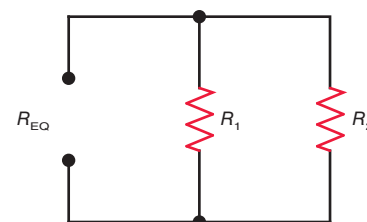

Figure 6-22
- 6.22 In Fig. 6-22, how much is R_{EQ} if $R_1 = 100 \Omega$ and $R_2 = 25 \Omega$?
- 6.23 In Fig. 6-22, how much is R_{EQ} if $R_1 = 1.5 \text{ M}\Omega$ and $R_2 = 1 \text{ M}\Omega$?
- 6.24 In Fig. 6-22, how much is R_{EQ} if $R_1 = 2.2 \text{ k}\Omega$ and $R_2 = 220 \Omega$?
- 6.25 In Fig. 6-22, how much is R_{EQ} if $R_1 = R_2 = 10 \text{ k}\Omega$?
6.26 In Fig. 6-22, how much resistance, R_2 , must be connected in parallel with a $750\ \Omega$ R_1 to obtain an R_{EQ} of $500\ \Omega$?